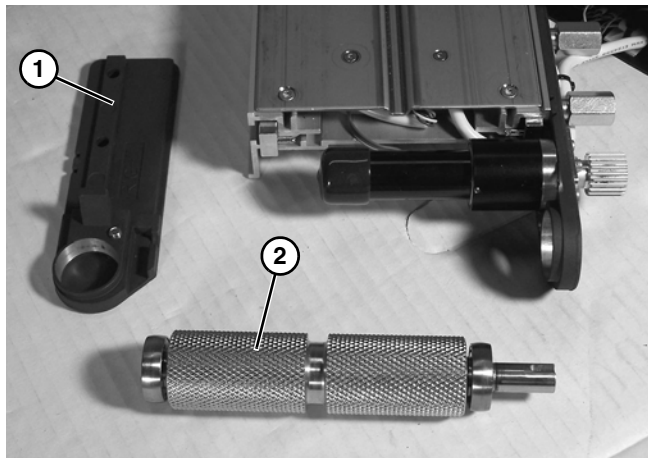

Figure 55
10. Remove head plate (**Figure 55, item 1**) from frame.
11. Replace spindle (**Figure 55, item 2**).